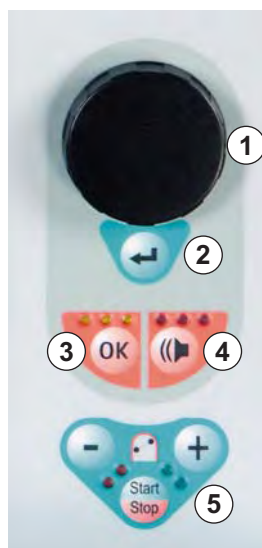

Fig. 2-8 Control elements on monitor
The **rotary knob** (Fig. 2-8, ①) moves the cursor on the screen.